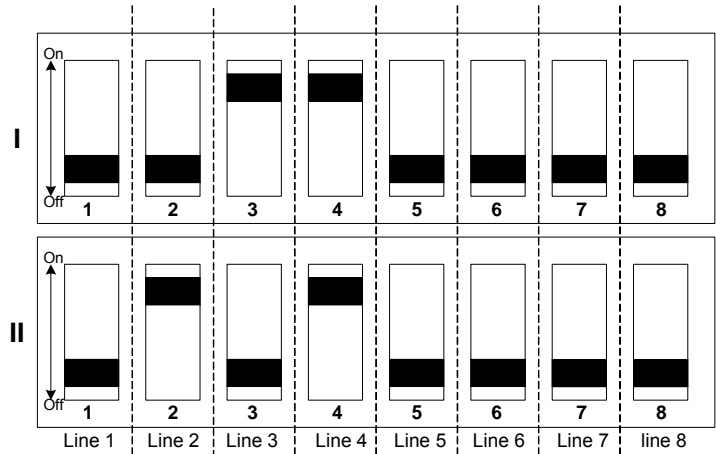

Fig.2
Duty mode of lines is determined by a pair of switchers (pos.4, fig.1). Each line has a pair of switchers, whose position is determined by the operation mode (fig . 2)